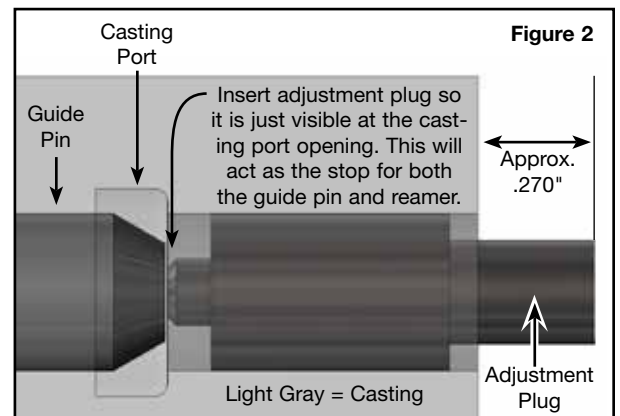

Figure 2
- Reinstall adjustment plug into empty bore, such that the inboard nub is just visible at the casting port (**Figure 2**). The approximate measurement from casting face to the end of plug is .270". Hold in place with OE clip. The end plug will serve as the stop for the guide pin and reamer.